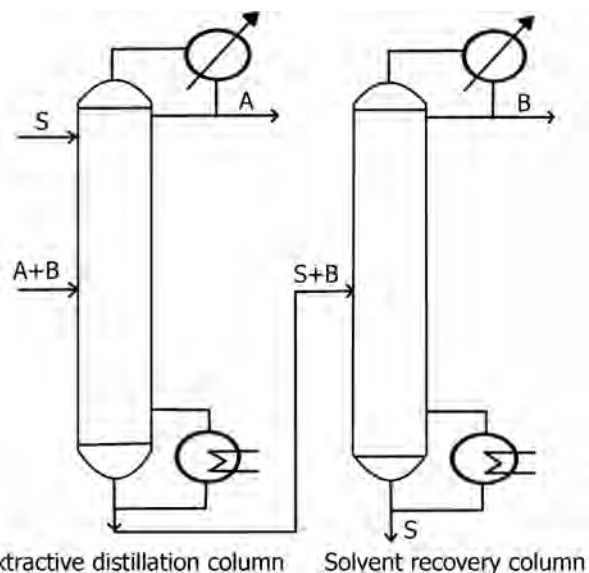

FIGURE 17.33 Two-column system for extractive distillation.
- Figures 17.33 and 17.34 illustrate separation schemes for binary and multicomponent mixtures by extractive distillation.